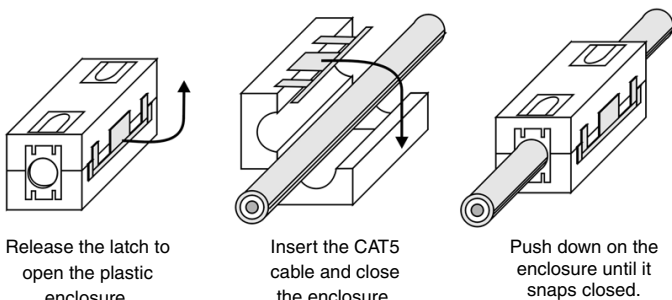

FIG. 5 Installing the CAT5 Suppression Ferrites
Before connecting the RJ-45 cables to the Modero Touch Panel, install the necessary number of CAT5 Suppression Ferrites (FIG. 5) to the RJ-45 Audio/Video cable. These ferrites come as part of the Installation Kits mentioned in the Specification table.
1. The CAT5 Suppression Ferrite is housed within a plastic enclosure (shown in FIG. 5) with a latch release on one side. Pull to release the latch and open the enclosure.
Before connecting the RJ-45 cables to the Modero Touch Panel, install the necessary number of CAT5 Suppression Ferrites (FIG. 5) to their appropriate locations. These ferrites come as part of the Installation Kits mentioned in the Specification table.